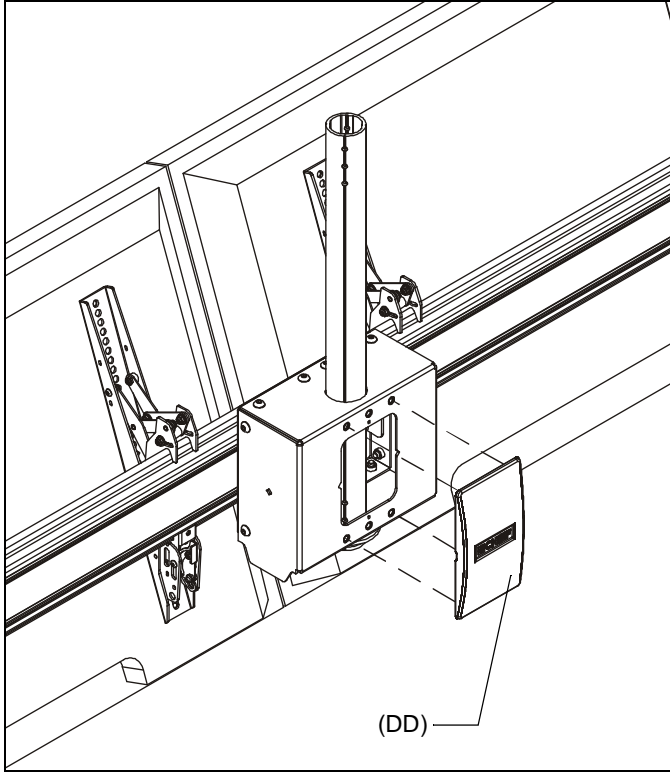

Figure 14
- 2. Install back cover (DD) into four holes on back of ceiling mount. (See Figure 14)